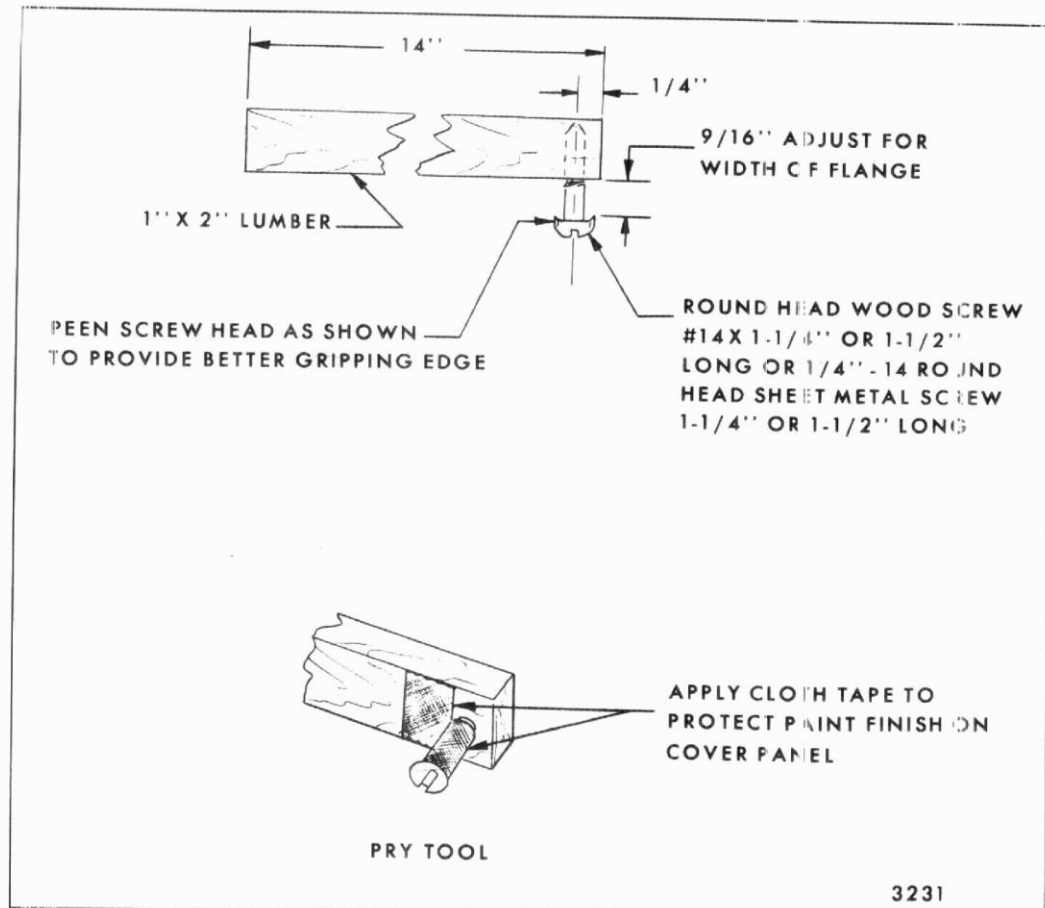

Fig. 9-42-Pry Tool Fabrication
Fabricate a special "pry tool", as depicted in Fig. 9-42.
**NOTE:** Prior to performing steps 3 through 9 make sure that tools are readily available in the body, as it will be difficult to exit from body. Tools required are: pry tool (See Fig. 9-42), No. 2 cross-recess screw driver, No. 2 cross-recess miniature ratchet or off-set screw driver, No. 2 cross recess "shorty" screw driver, sharp knife, ball-peen hammer and 1/4" drive ratchet with 7/16" socket.